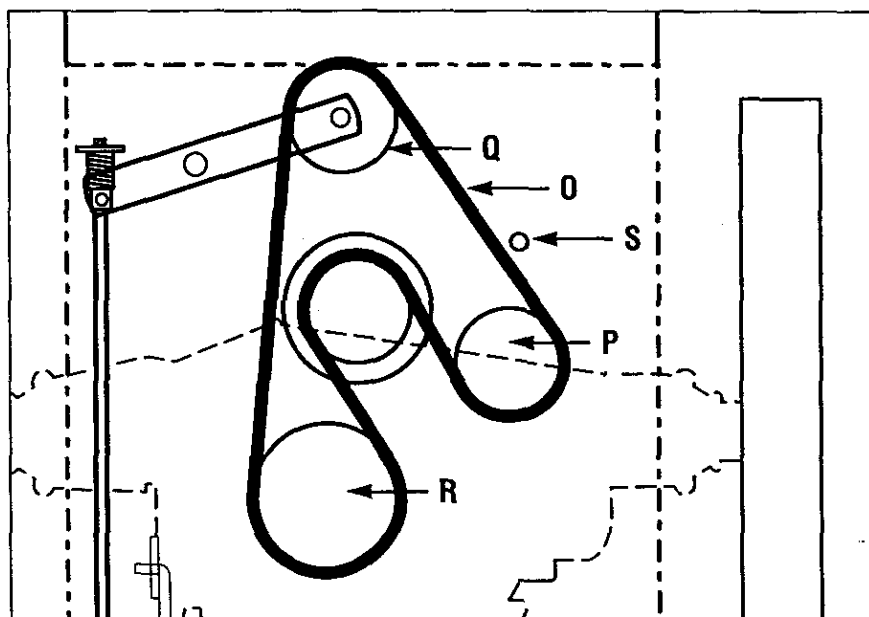

Figure 5-11: Wheel drive belt replacement.
4. Locate wheel drive belt (O, Figure 5-11) and remove it from top sheave of engine sheave, backside idlers (P and Q) and transmission sheave (R).
5. Install new belt shown in Figure 5-11. Belt must be installed "inside out" "V" side of belt lies against engine sheave only. Flat side of belt lies against transmission sheave (R) and backside idlers (P and Q).
6. Make sure belt is inside belt guide (S, Figure 5-11).